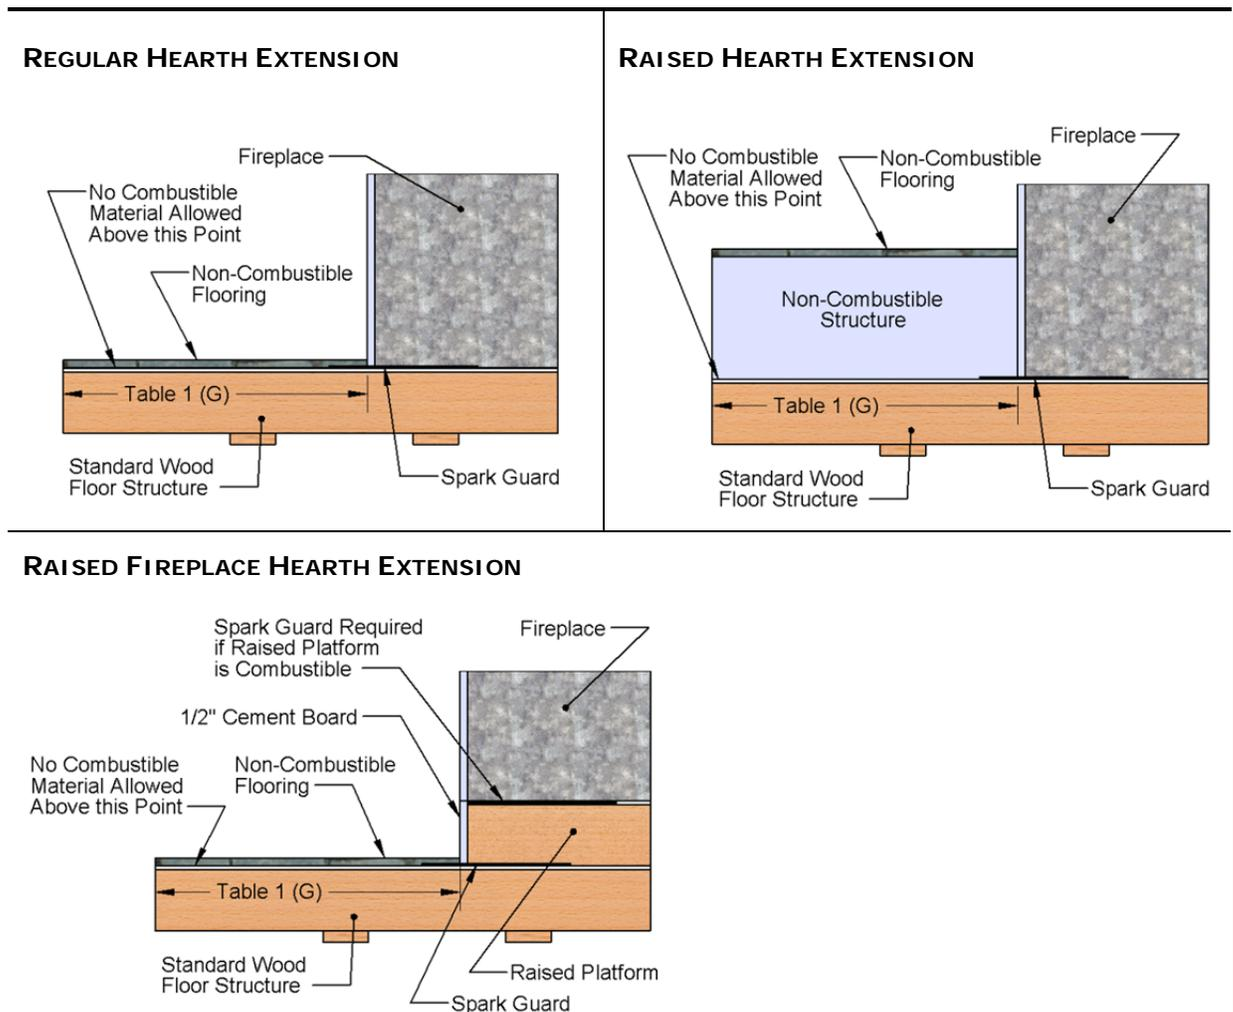

FIGURE 23 HEARTH EXTENSION EXAMPLES
The area immediately in front of the fireplace must be protected if the surface is combustible. Refer to Table 1 (E-F) for the depth and width that the hearth extension protection should extend beyond the front and both sides of the fireplace opening (see Figure 2). Refer to Figure 23 for various alternatives of hearth extension installation.
The spark guard provided (E) must be installed $2\frac{1}{2}$ " under the fireplace bottom standoff and $2\frac{1}{2}$ " under the hearth extension, centered on the fireplace opening. When installed in this manner, its size will also cover the entire floor area under the metal front step of the fireplace (see Figure 23). This guard prevents sparks from lodging in this area and starting a fire.